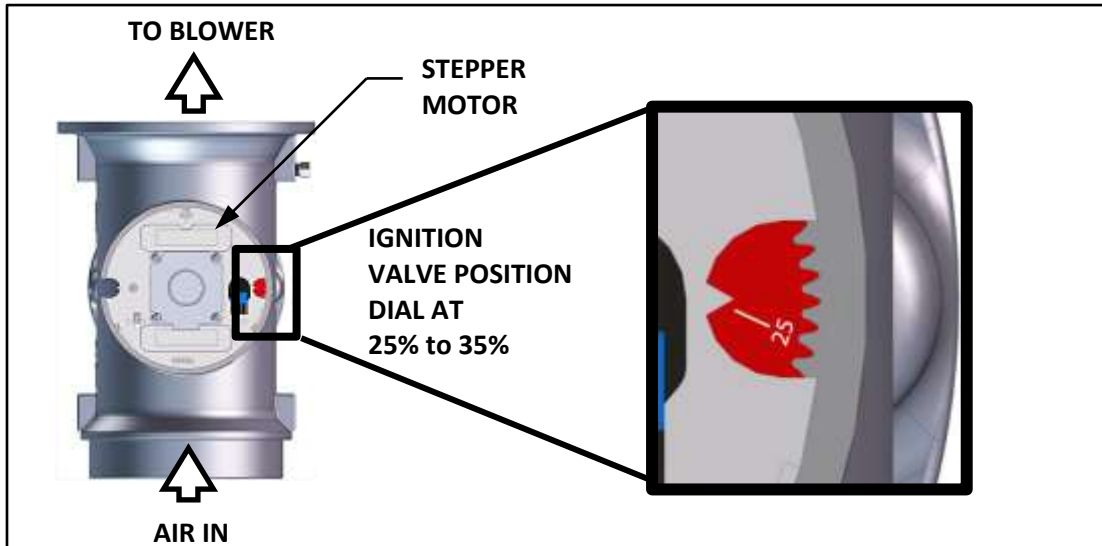

Figure 4-5: Air/Fuel Valve in Ignition Position
- a) The Air/Fuel Valve rotates to the ignition position and closes the ignition switch. The Dial on the Air/Fuel Valve (Figure 4-5) will read between **25** and **35** to indicate that the valve is in the low fire position.